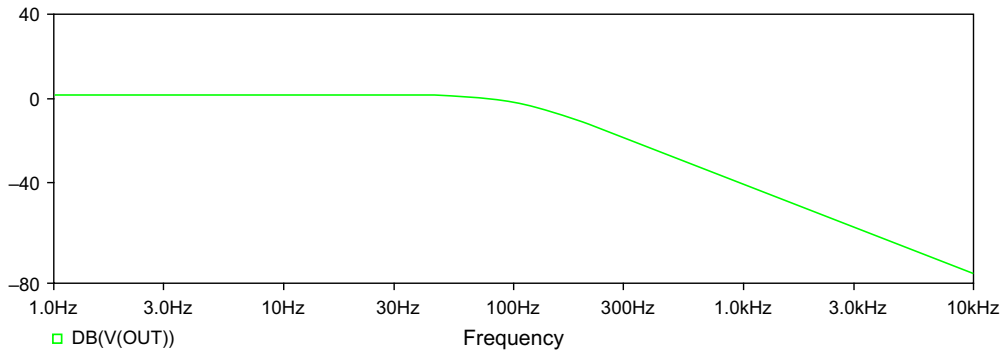

FIGURE 12.11
6. The frequency response is shown in Figure 12.11.